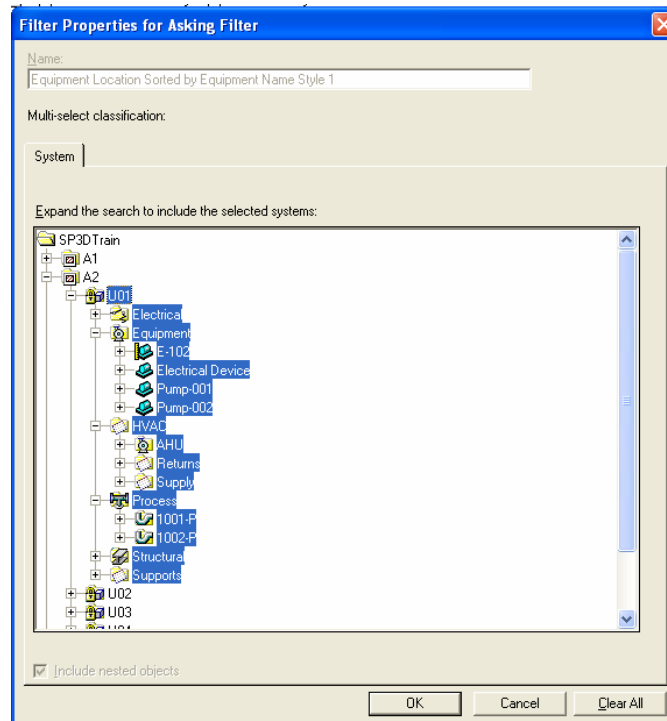

Figure 11: Filter Properties For Asking Filter Dialog Box
- The software prompts for parameters or a filter if the selected report template requires these inputs. In the **Filter Properties for Asking Filter** dialog box, select Unit **U01** to include as a parameter in the report, as shown in Figure 11.